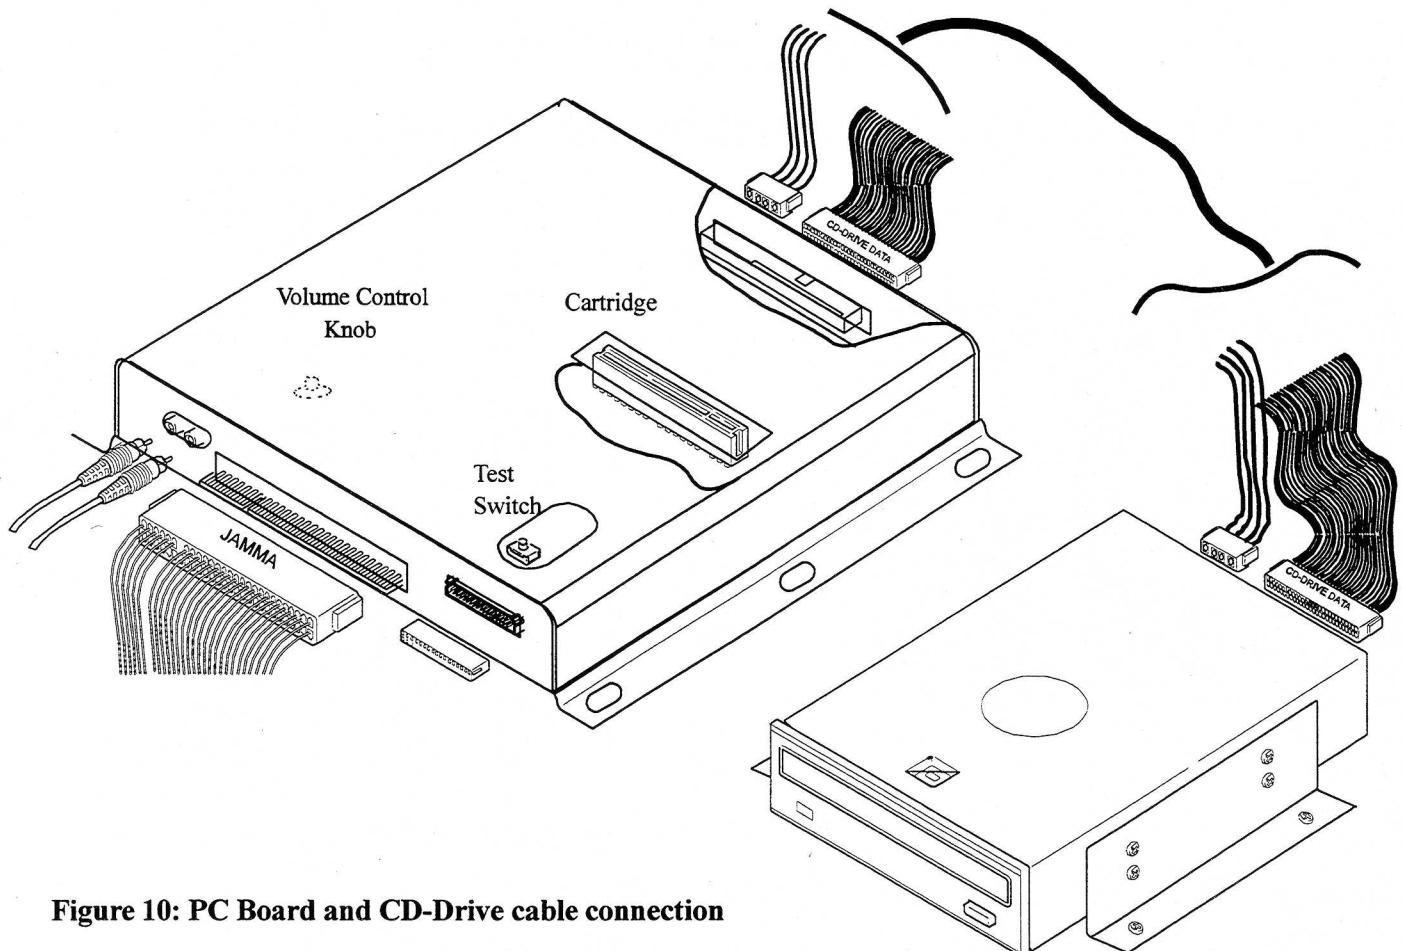

Figure 10: PC Board and CD-Drive cable connection
31. Attach Power and Data Cable to CD-Drive. Connect other end to SCSI combination connector on the main PCB (Figure 10).
32. Connect the JAMMA harness connector to the edge connector on the PC Board (Figure 10).
33. Attach the auxiliary cable connector to the PC Board. (Figure 10).
34. If you elect to use Q\_Sound Audio Amplifier, connect audio cable to audio output on the PC Board. (Figure 10).